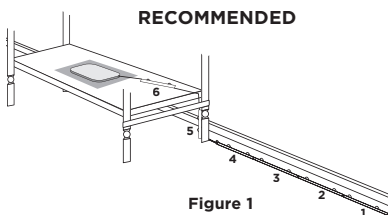

Figure 1
- 1) Use the crib leg by the wall closest to the Nursery Unit (**Figure 1**). In cases where the Nursery Unit is across the room, use the leg closest to the Nursery Unit to position the covered wire (**Figure 2**). It is always preferable that the covered cord run along a wall.